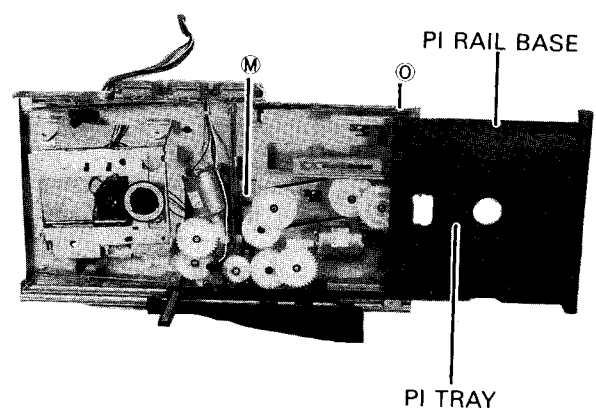

Fig.4
8. Removing the P1 RAIL BASE Ass'y (Fig.4,8)
9. Removing the P1 RAIL BASE (Fig.4,5,6)